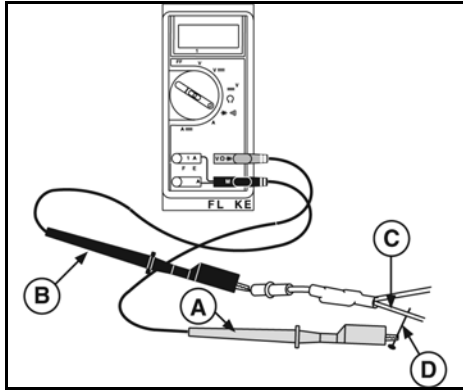

Figure 25
1. Insert RED test lead (A, Figure 25) into the V  $\Omega$  receptacle and set the rotary switch to Diode position.
2. Insert BLACK test lead (B) into the COM receptacle in the meter.
3. Attach RED test lead clip to (D) of the WHITE wire (C). (It may be necessary to pierce wire with a pin as shown.)
4. Insert BLACK test lead (B) into harness connector.